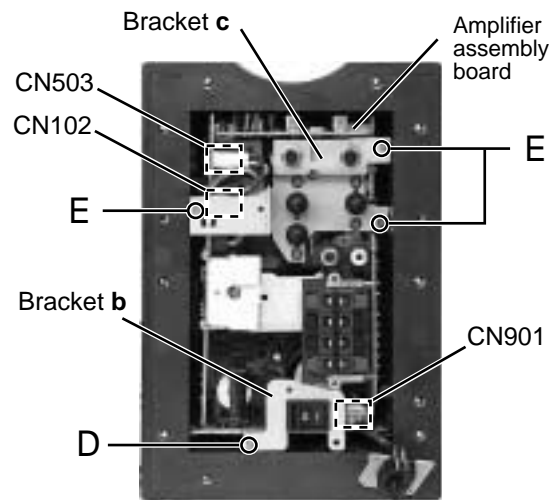

Fig.5
■ **Removing the amplifier assembly board (See Fig.5, 6)**